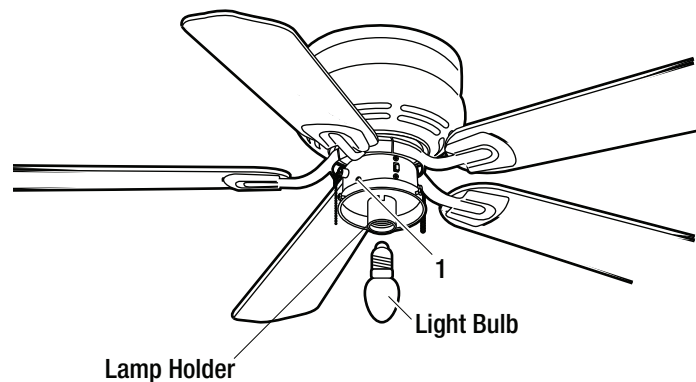

Figure 15
- Install a light bulb (max. 60W, medium screw base) to the lampholder (Figure 15).